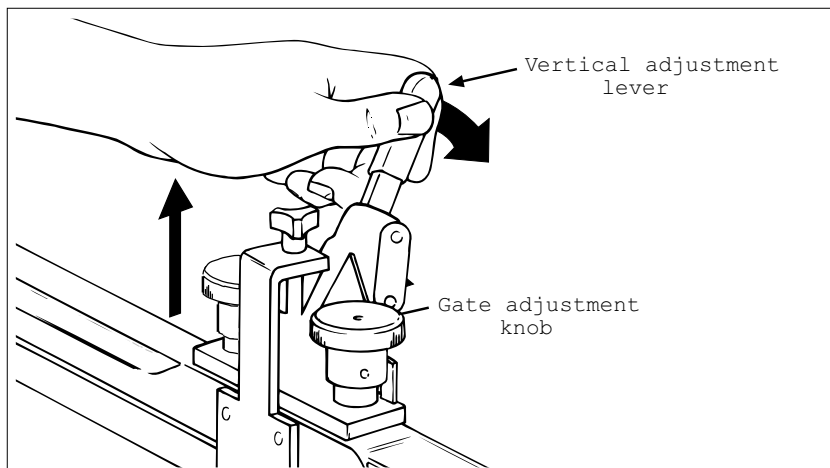

Figure 2-3. Using the Adjustments to Raise Hopping Rollers
1. Locate the gate adjustment knobs (Figure 2-3) and turn completely in a clockwise direction to raise hopping rollers.